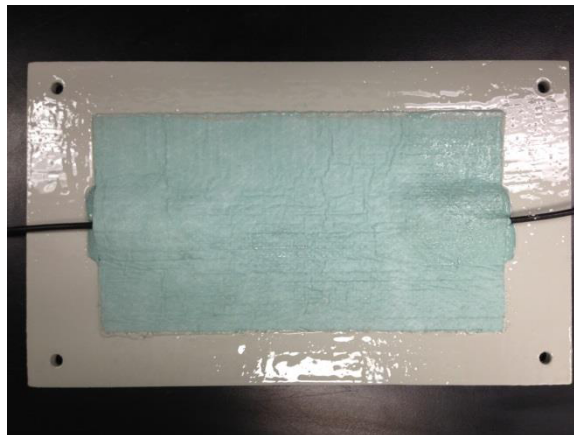

Figure 12 – Primed and Painted
- Paint the exposed steel surface around STOPAQ Patch with a uniform coat of a suitable primer such as Carbozinc 859 as shown in Figure 12. Paint right up to the edge of the patch to fully protect the metal, but do not paint the surface of the patch. Paint over the primer with a compatible topcoat such as Carboxane 2000.